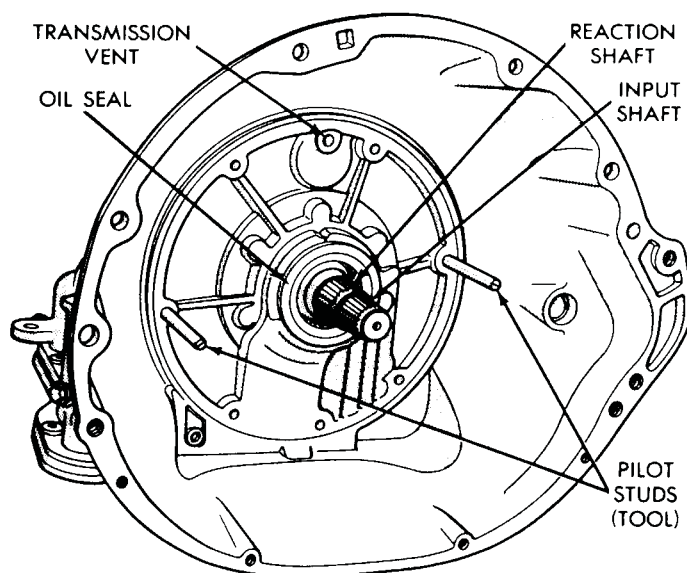

Fig. 31—Installing Oil Pump
- (1) Screw two pilot studs Tool C-3288-B in pump opening in the case (Fig. 31). Install a new gasket over the pilot studs.